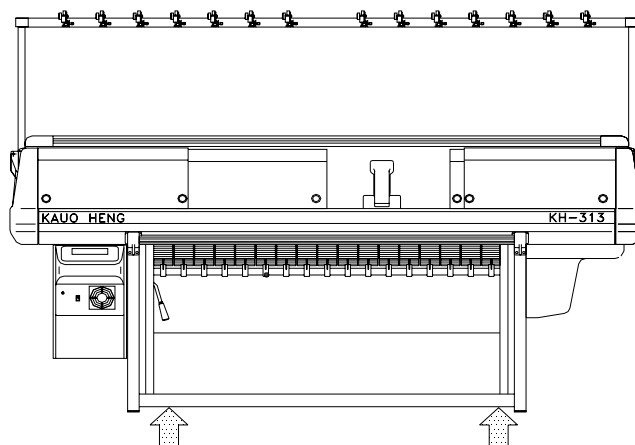

Fig.1.1 Correct position of jacking the machine
- ② Fig.1.1 illustrates the correct position of jacking while moving the machine. It is very important when moving the machine. The yarn carrier rail shall never be used to push the machine since it will distort the rail.